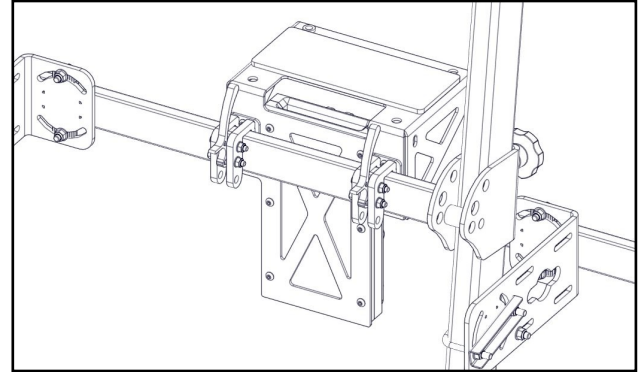

Fig. 1 (attaching the chainsaw mount)
1. Figure 1 shows a chainsaw mount installed onto an Artillian ROPS Mounted Tool Bar.